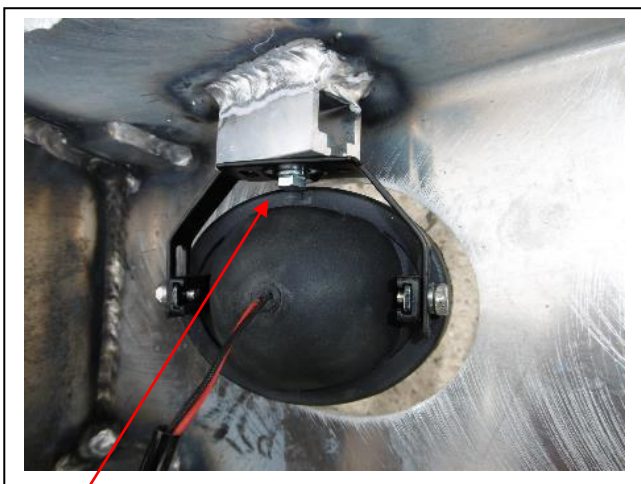

Figure 7
10. Attach ECB fog lights to protection bar. Place M6 x 20 bolts, spring washers (supplied) through light mount from inside and attach nut to top. Slide assembly into light mount in Protection bar and centralize light to hole. **See figure 7. TIGHTEN FIRM ONLY.** Fit ECB fog light trims (supplied) to protection bar. **NOTE:** Wider part of trim faces to centre.